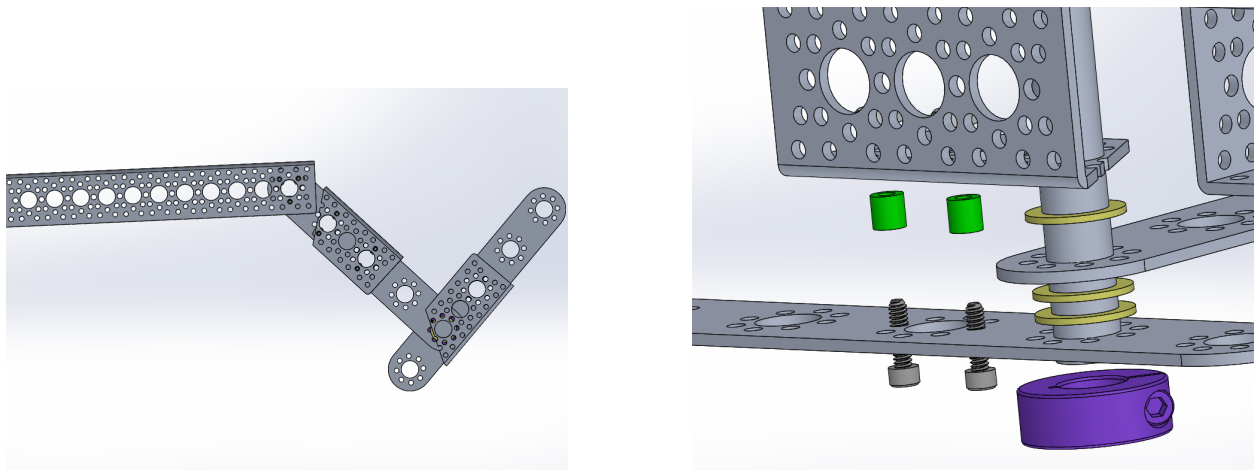

Figure 4: Start Rocker-Bogie pivot joint
that the cut modification in **S2A** is angled towards the 9 inch channel as shown in Figure 4.
2. **Start the Bogie pivot joint:** Put rod **S18A** through the last hole in the pattern F bracket. Then, assemble the pivot joint by attaching another modified 3 inch channel **S2A** and another pattern F bracket using washers **W3**, collar clamp **S22**, standoffs **T2**, and screws **B4**. Make sure to use the 2nd from the bottom hole on the 2nd pattern F bracket. See Figure 4: